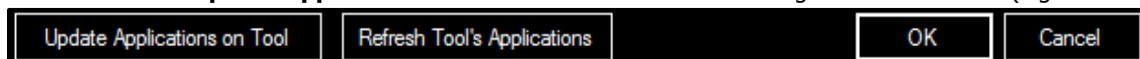

Figure 8.7-15: “Update Applications on Tool” Button
3. Press the **“Update Applications on Tool”** button to load the changes onto the E-RAD (Figure 8.7-15).